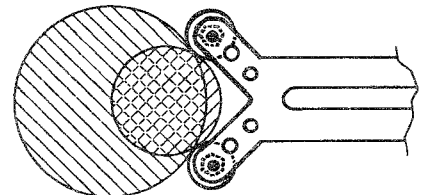
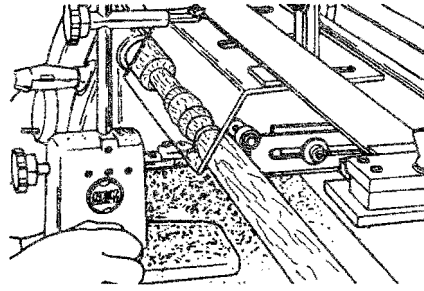

Fig. 9
Fig. 10
4. Adjust the bearings to fit the diameter of the spindle stock. See Fig. 9 (above) for which holes to use for the size spindle. Apply light pressure against the stock, then use the 5/16" Allen wrench to tighten the cap screw (10) attaching the Y-support to the bracket (8).
5. Test the setting of the bearings by plugging in the Mark V (with the speed dial still set at "Slow,") and quickly turn the Mark V on, then off. Check the spindle. If the corners of the bearings are marking the stock, loosen the Y-support's cap screw (10) and re-adjust the bearings against spindle. Repeat this step to re-check, until the bearings do not mark the spindle. However, a slight polishing of the stock will happen where the bearings roll against it. This is normal. The polished surface will be removed during sanding.
**7. Perform normal operations with the Lathe Duplicator and Steady Rest, as demonstrated in Fig. 10.** Shape the profile of the spindle. When turning long spindles, keep the Steady Rest at its original position and reposition the Lathe Duplicator table and the tool rest, as needed. There are exceptions to this guideline, especially for long, very small diameter stock— then it may be necessary to reposition the Steady Rest bearings along the spindle as it is turned.